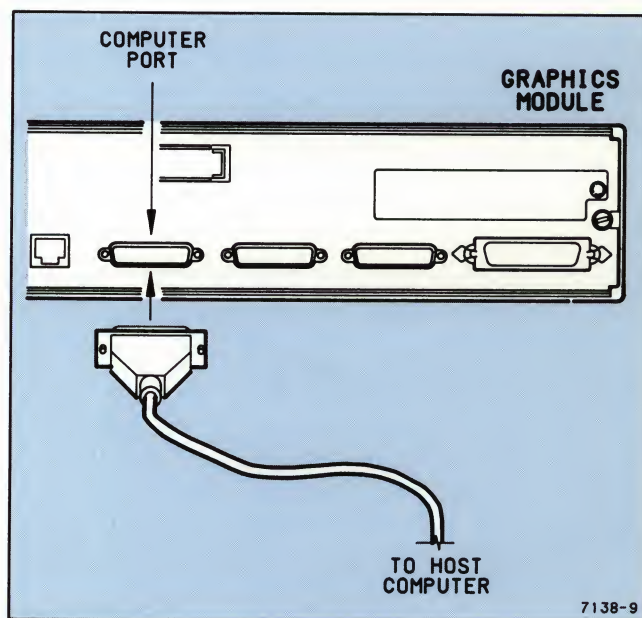

Figure 2-13. RS-232 Cable Connection.
7. If you will be using RS-232-C communications, connect the RS-232-C cable to the Graphics module's COMPUTER port as in Figure 2-13. Secure the cable connector to the Graphics module with the two connector screws. Connect the other end of the cable either to a modem or directly to your host computer.